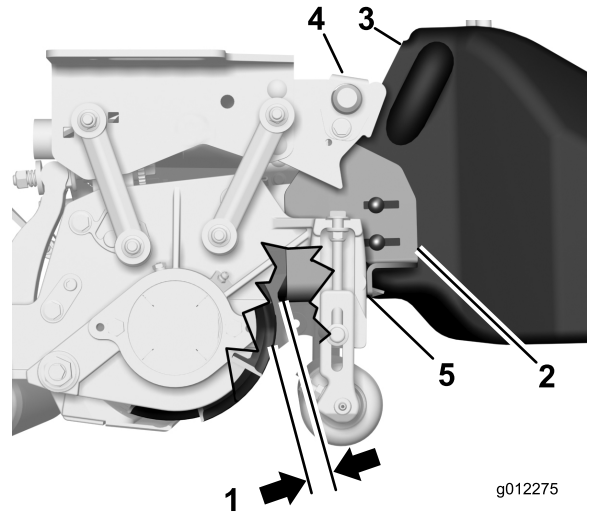

Figure 15
- Position the basket so it is parallel to the cutting unit with a minimum clearance of 6 mm (0.250 inch) between the lip of the basket and the reel (Figure 15).
- On each end of the basket, loosen the carriage bolt nuts securing the basket stop brackets to the basket (Figure 15).